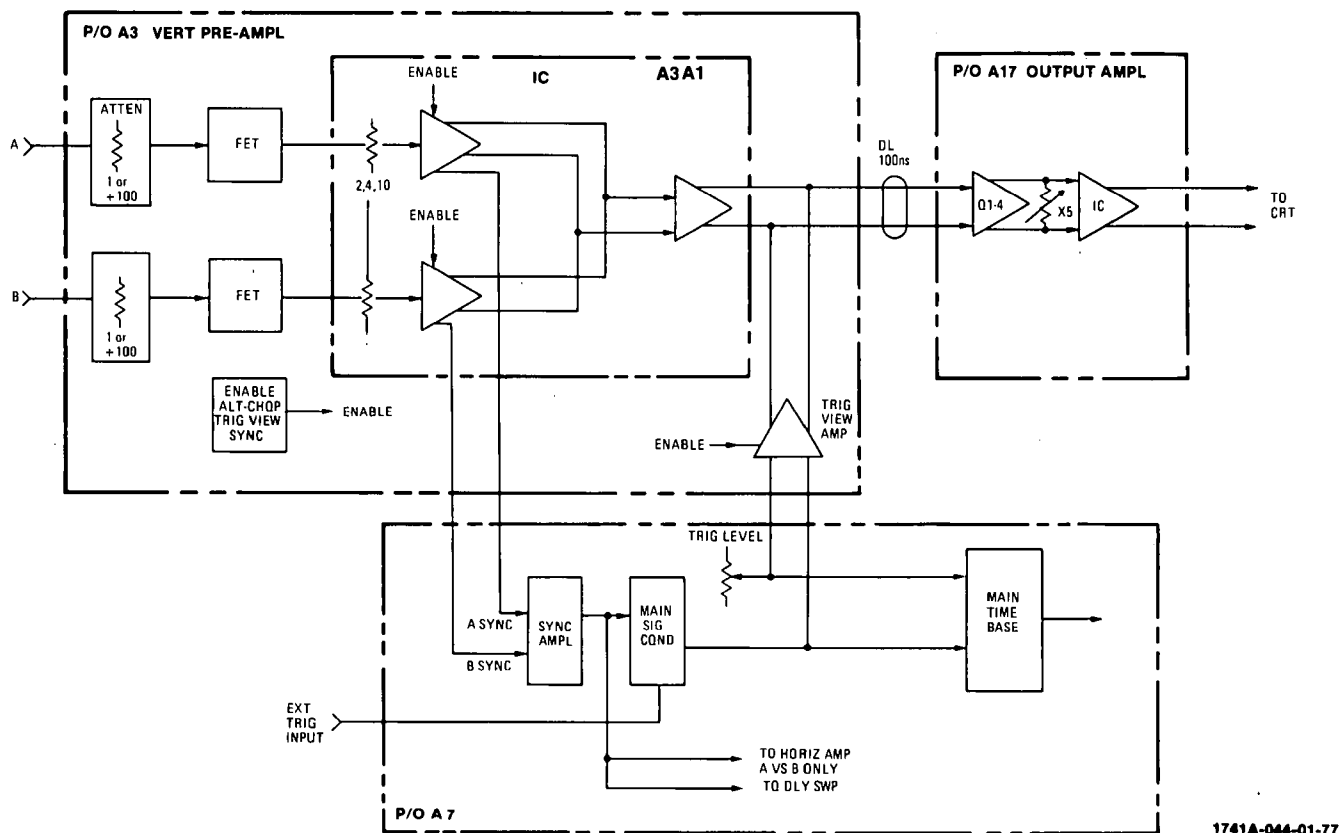

Figure 8-9. Vertical Section Block Diagram
**8-36. VERTICAL SECTION BLOCK DIAGRAM. (Figure 8-9.)**